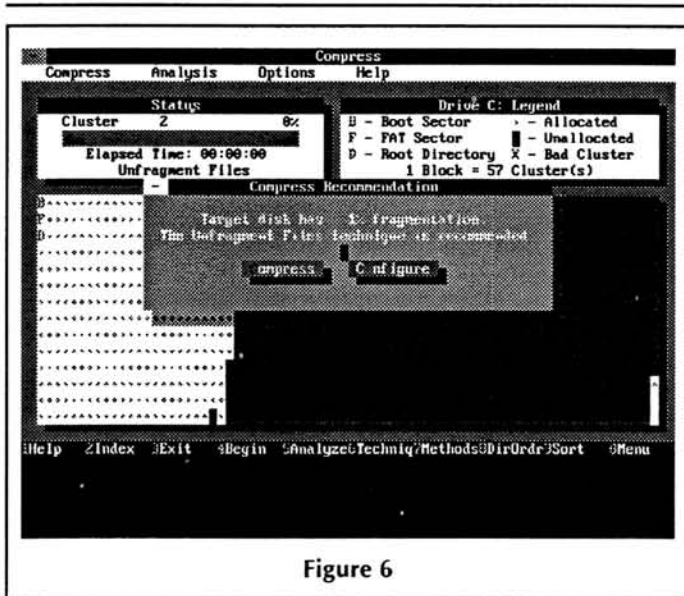

Figure 6
1. COMPRESS (Figure 6) unfragments a disk (hard or floppy) with numerous options.